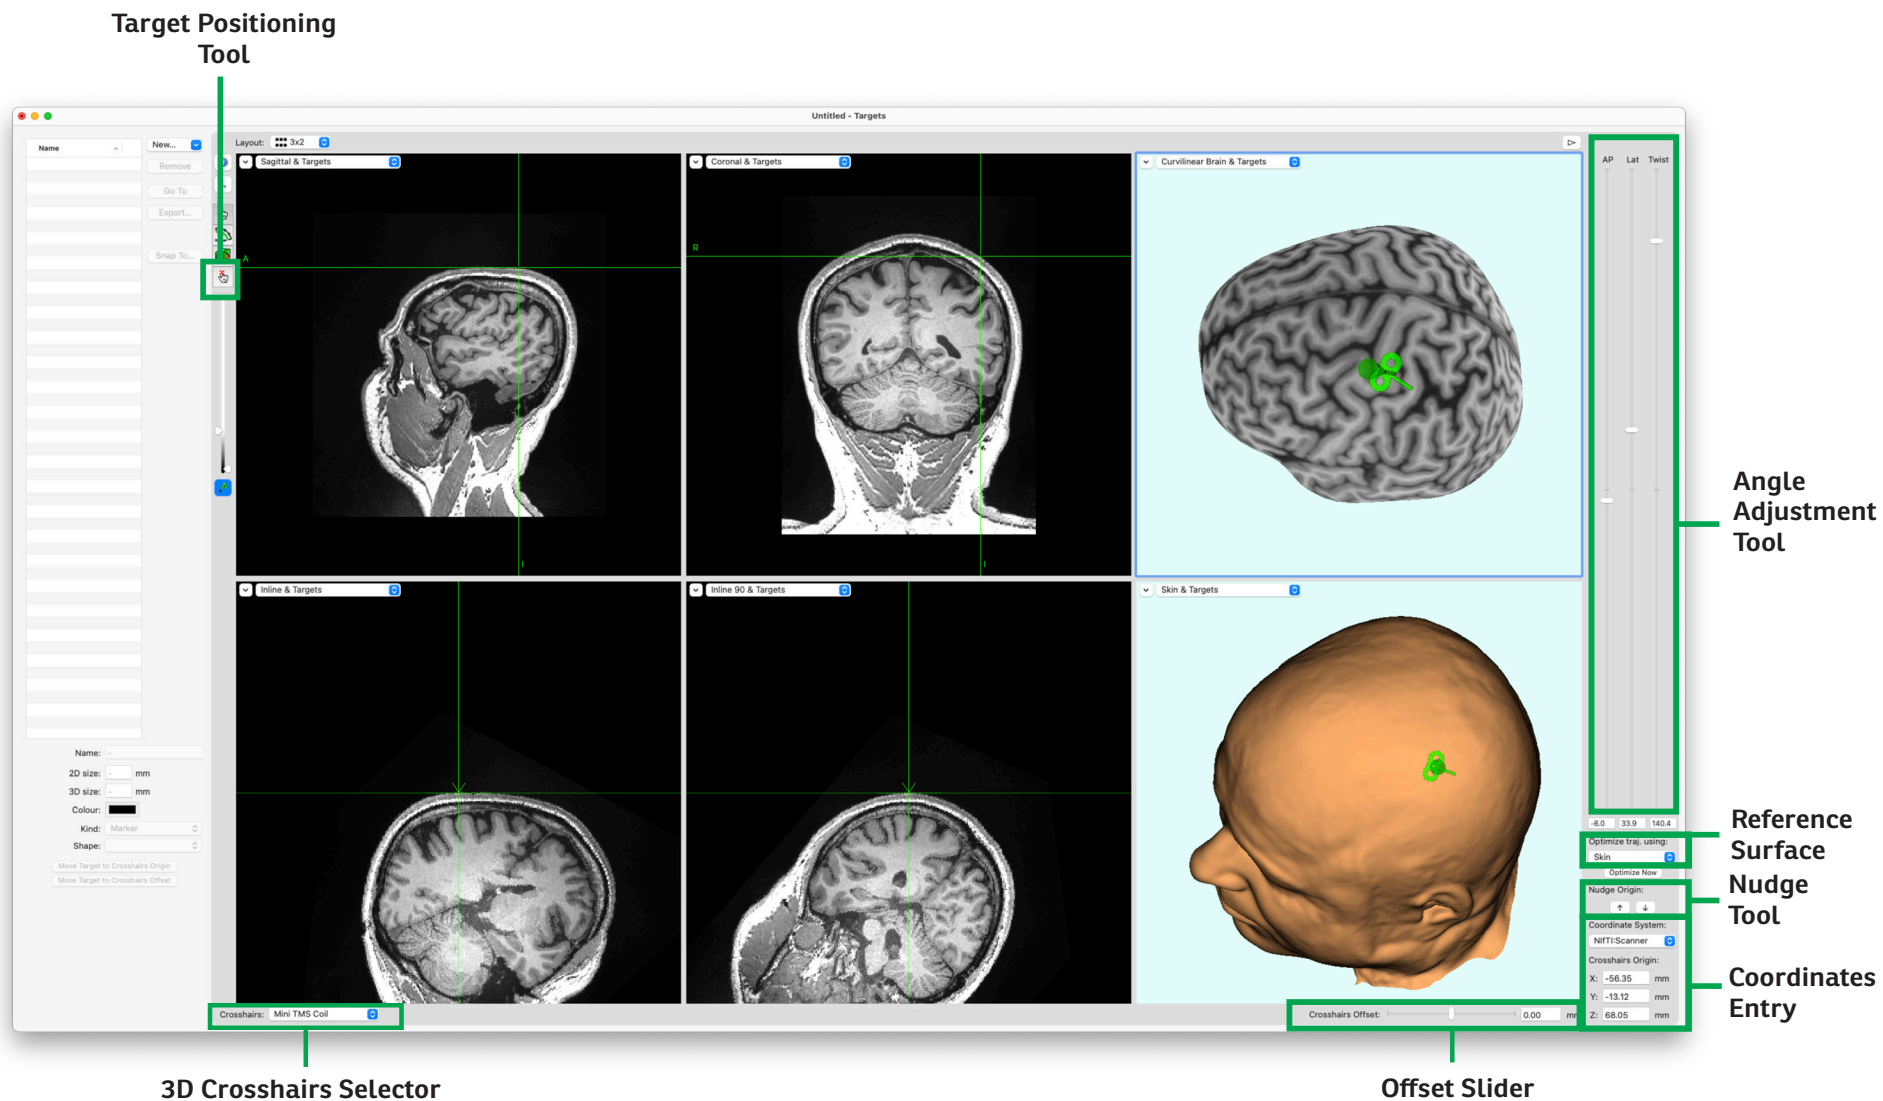

Fig. 11-2
To start the process, click **Targets** in the project window to bring up the target manager pane (Fig. 11-2) and then click **Configure Targets...** to open the targeting window.
Fig. 11-2 shows a typical targeting window. In addition to the typical image views and list of targets on the left, there are additional controls on the right. The image views can be set to the traditional transverse, coronal, and sagittal views, as well as to oblique, inline, and inline-90 views. Finally, the 3D curvilinear surface (if you created one) is shown. As with all view windows, you can change these views as you like. The angle adjustment tool enables you to change the “approach” angles of the cursor, which is particularly helpful when defining
- Select the Smart Cursor tool and move the cursor to the location that will be the centre of the grid. Make sure that the orientation of the cursor is normal to the brain (or scalp) curvature (as seen in Fig. 11-2). Remember to set the “twist” of the grid by adjusting the twist slider. The orientation is indicated by the little arrow at the base of the cursor (try zooming into the 3D view closely).